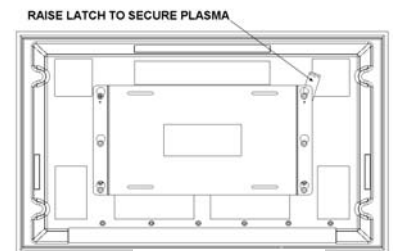

Figure 5
5. Raise safety latch to secure plasma (see Figure 5).